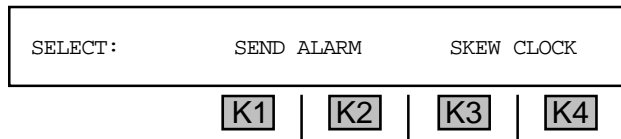

**Figure 5-40.1**
2. Connect the **935ATs** test cords as shown in **Figure 5-40.1**.